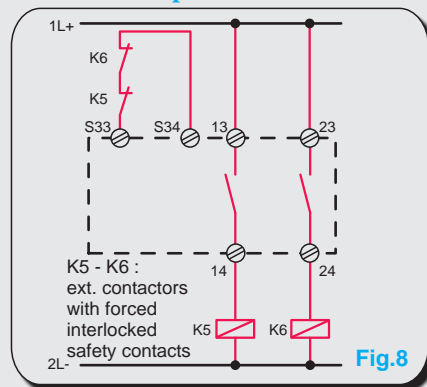

Fig.8
- Possibility to increase number and load capacity of the output contacts by external safety contactors (Fig.8)